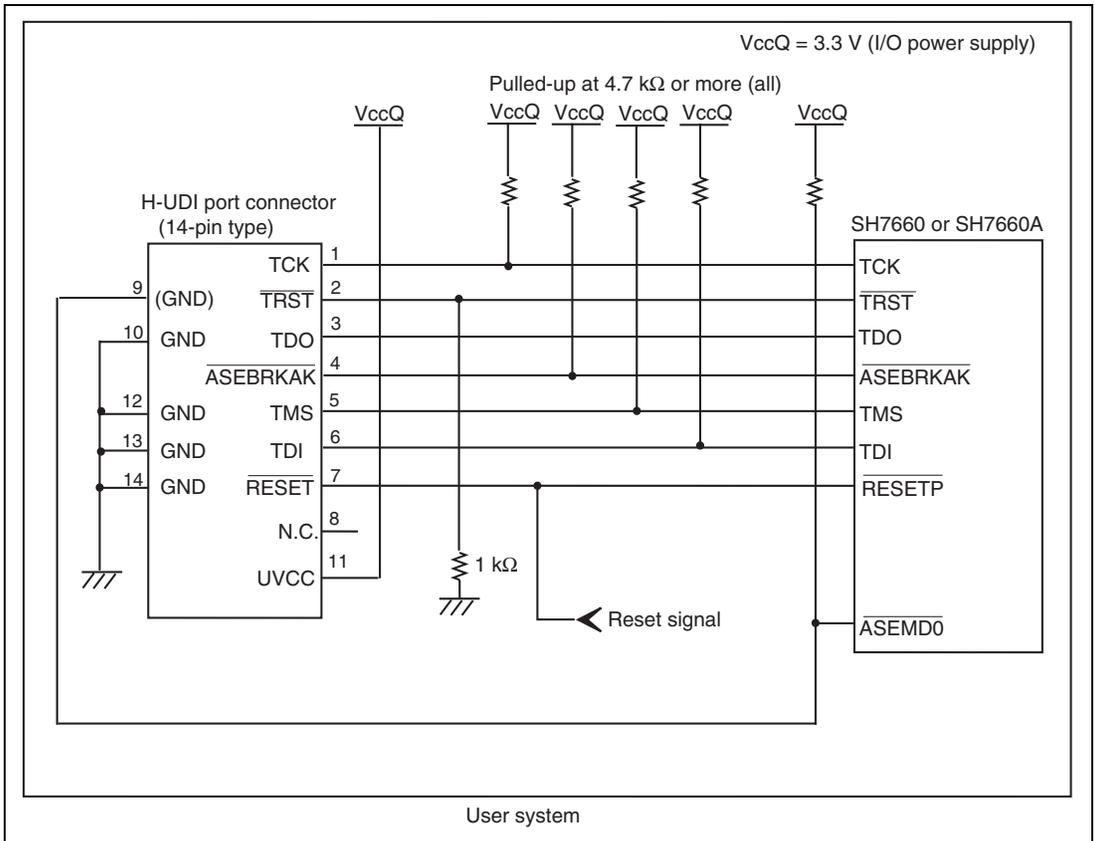
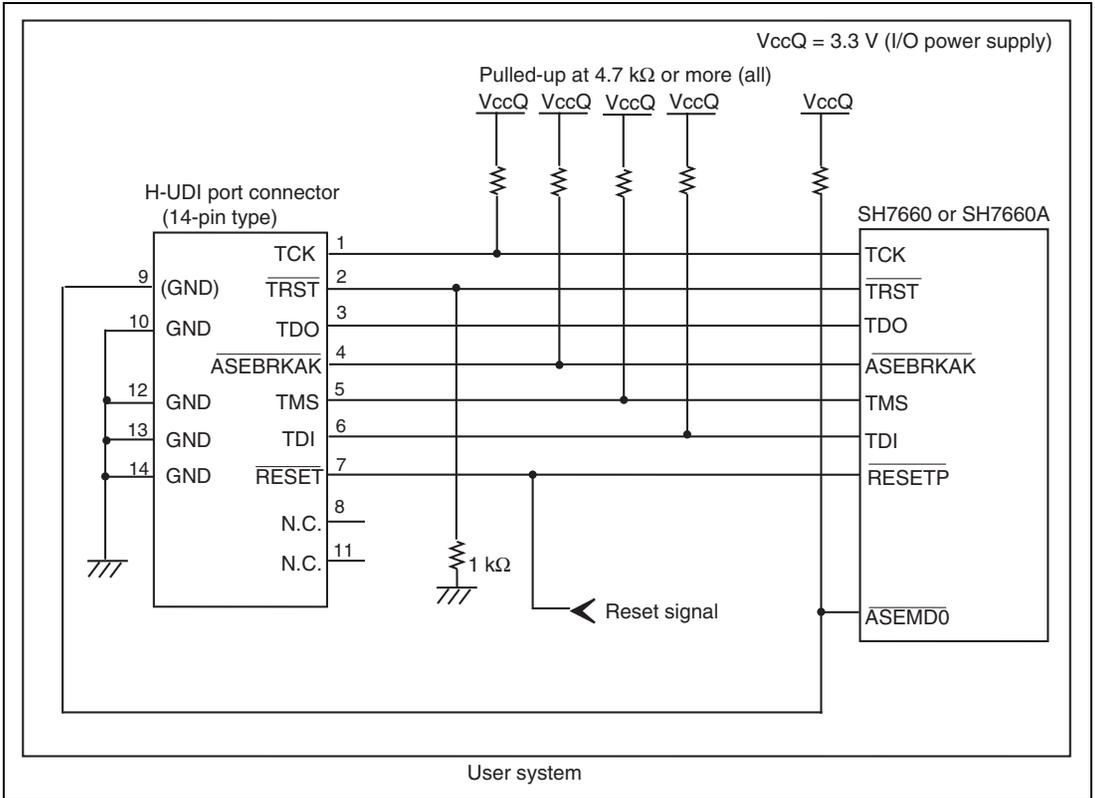

Figure 1.5 Recommended Circuit for Connection between the H-UDI Port Connector and MPU when the Emulator is in Use (14-Pin Type UVCC Connected)
Figure 1.6 Circuit for Connection between the H-UDI Port Connector and MPU when the Emulator is in Use (14-Pin Type UVCC Not Connected*)
Figure 1.5 shows a recommended circuit for connection between the H-UDI and AUD port connectors (14 pins) and the MPU when the emulator is in use. Figure 1.6 shows a circuit for connection when UVCC is not connected.
- (1) When the emulator is used: /ASEMD0 = 0
- (2) When the emulator is not used: /ASEMD0 = 1Figures 1.5 and 1.6 show examples of circuits that allow the /ASEMD0 pin to be GND (0) whenever the emulator is connected by using the user system interface cable. When the /ASEMD0 pin is changed by switches, etc., ground pin 9. Do not connect this pin to the /ASEMD0 pin.
5. When the power supply of the user system is turned off, supplying VccQ of the user system to the UVCC pin reduces the leakage current from the emulator to the user system. A level shifter that is activated by the internal power supply or user power supply (changed by the switch) is installed in the interface circuit of the emulator. If the user power is supplied to the UVCC pin, the level shifter is not activated as long as no user power is supplied. When the power supply of the user system is turned off, no current flows from the user interface. The I/O voltage level of the user system interface can be the same as that of the VccQ. To operate the emulator with low voltage (lower than 3.3 V), the VccQ must be supplied to the UVCC pin. Make the emulator's switch settings so that the VccQ will be supplied (SW2 = 1 and SW3 = 1) (as shown in figure 1.5).
When the circuit is connected as shown in figure 1.5, the switches of the emulator are set as SW2 = 1 and SW3 = 1. For details, refer to section 3.8, Setting the DIP Switches, in the SuperH™ Family E10A-USB Emulator User's Manual.
When the circuit is connected as shown in figure 1.6, the switches of the emulator are set as SW2 = 0 and SW3 = 1. For details, refer to section 3.8, Setting the DIP Switches, in the SuperH™ Family E10A-USB Emulator User's Manual.